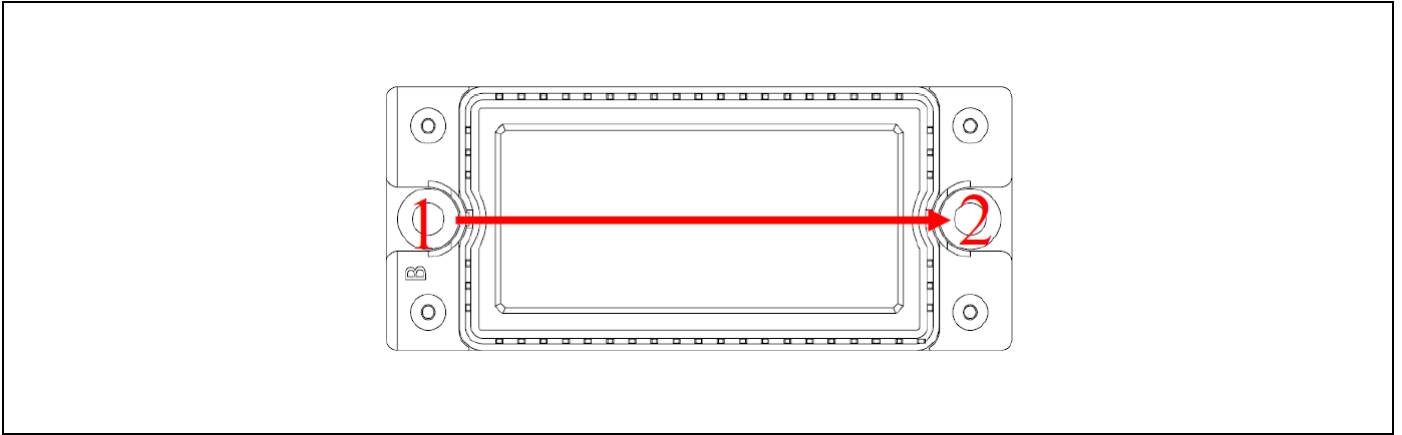

Figure 6: Fastening sequence on the heat sink of C5 module.
1. It is recommended to mount the C5 module on the heat sink in the following sequence: 1→2, as shown in the [Figure 6];